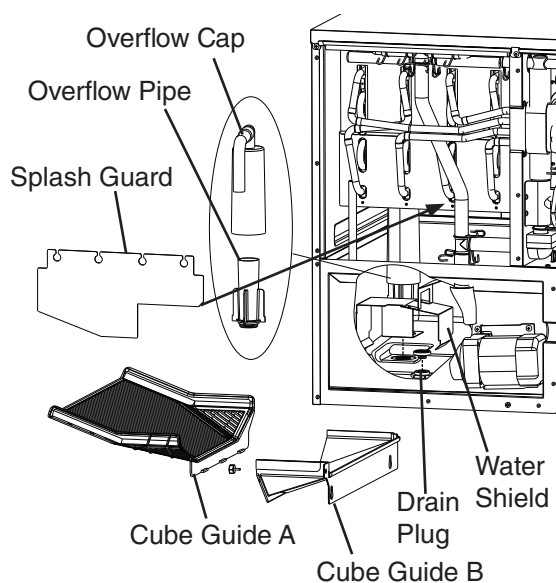

Fig. 3
- 3) Remove the front insulation panel, then remove splash guard, cube guide B, and cube guide A. Next, remove the overflow cap, overflow pipe, and water shield. See Fig. 3.